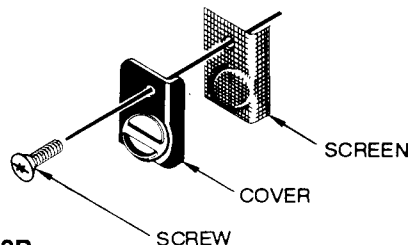

Figure 4-2B
4. Install the spark arrester screen, the screen cover and secure in place with the retaining screw. (Figure 4-2B)